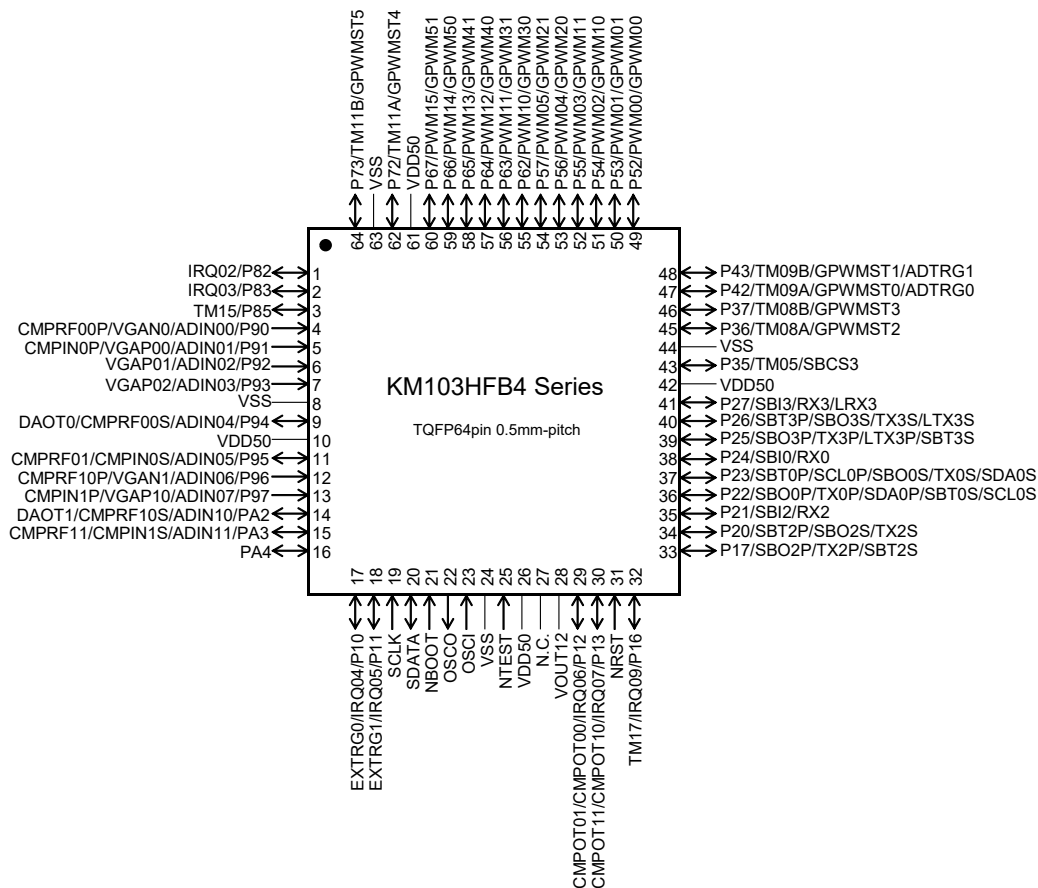

Figure 1.4-4 Pin Configuration Figure of KM103HFB4 Series (64 pins)
- Pin Configuration Figure of KM103HFB4 Series (64 pins) (Figure 1.4-4 )
Figure 1.4-4 shows Pin Configuration Figure of KM103HFB4 Series (64 pins).